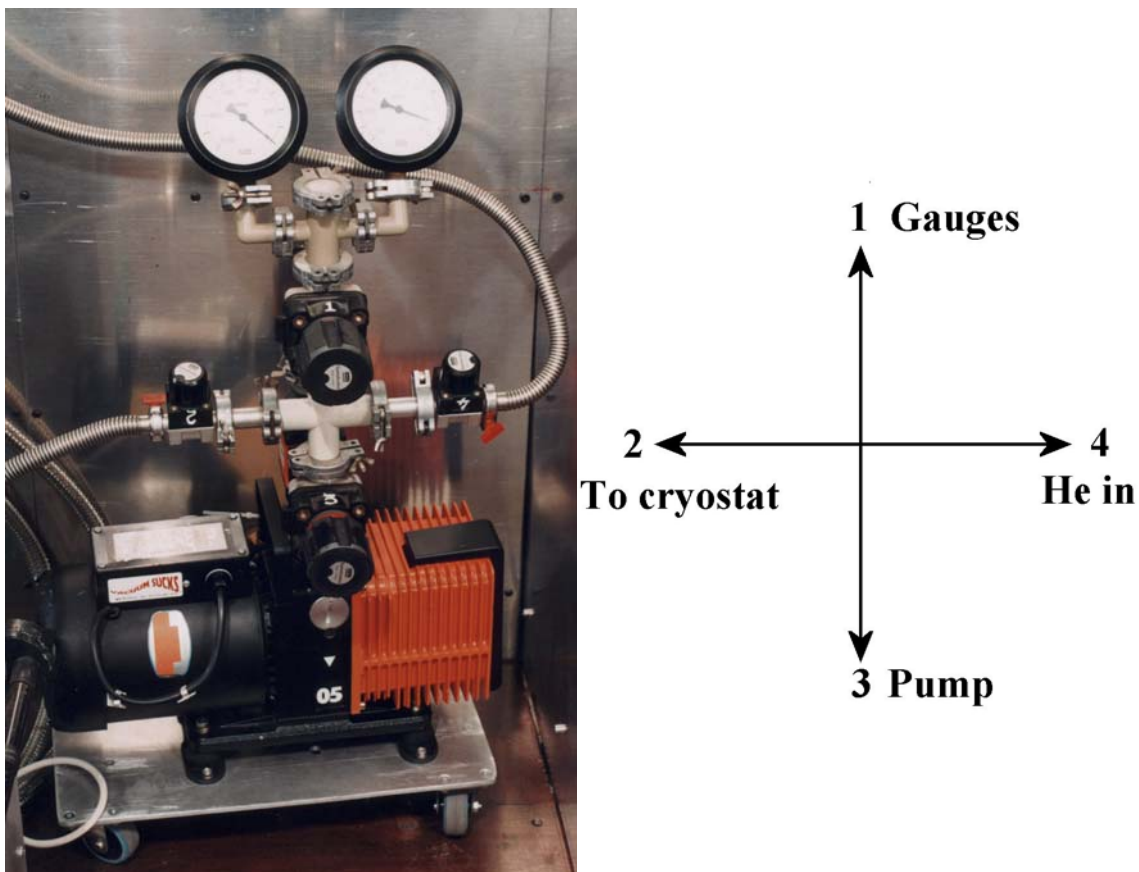

Figure 2.10: The pump manifold and sketch showing the numbering of the valves.
10. Open valve No's 1, 2 and 4 on the cryostat pump (see Figure 2.10). The vacuum gauges should show the pressure rising slowly, meanwhile the He gas flow is at maximum. Ensure that the light blue valve on the tight-hand side of the CCR is pointing vertically, Figure 2.13.